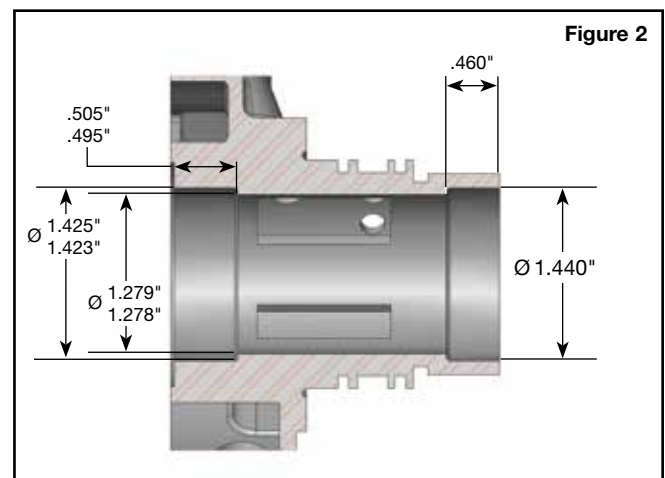

Figure 2
- Machine pump cover per dimensions (Figure 2).